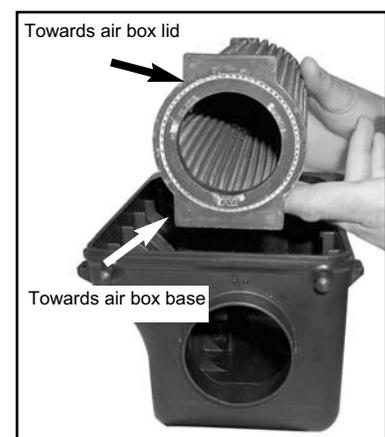

Fig. 3
5. Install the K&N Air Filter by sliding it into the grooves of the air box. (Fig. 3)